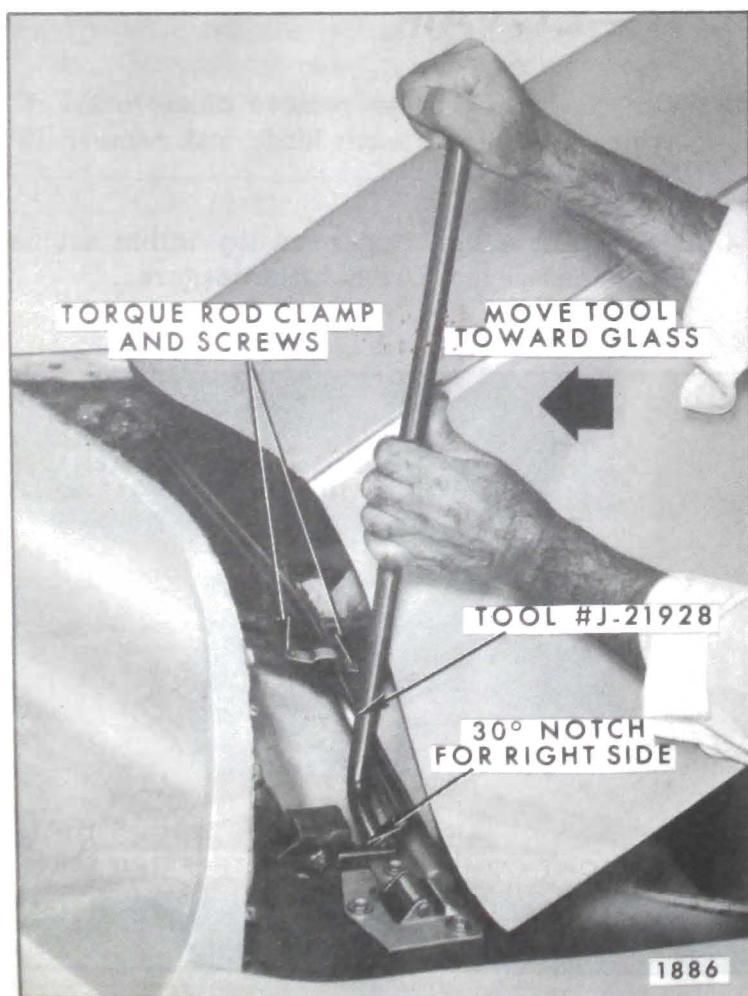

Fig. 3-28—Torque Rod Removal - Right Side
5. Remove torque rod clamp to shroud, located to right of center of shroud (Fig. 3-28).
6. Install tool J-21928 (Fig. 3-28) to lid torque rod on right side of body. Securely grasp tool and move it toward windshield to disengage rod from retaining notch. Carefully disengage tool from rod.